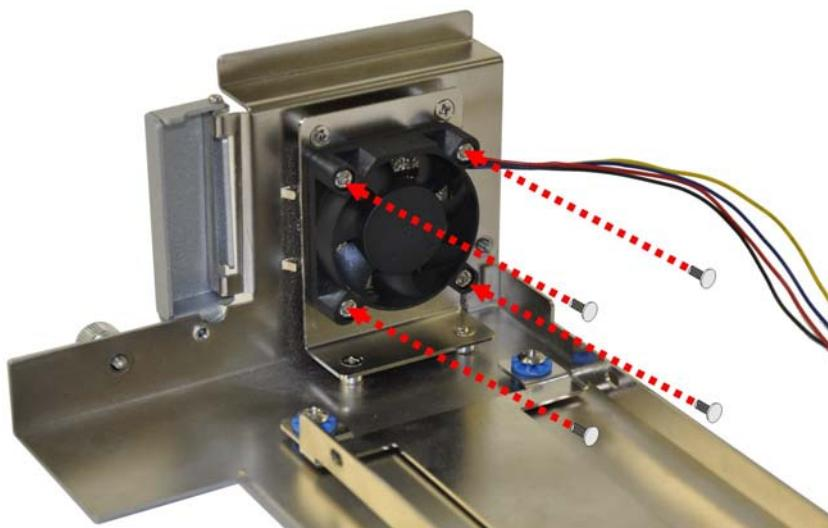

Figure 3-8: System Fan Installation
- Step 3:** Attach the system fan to the TANK-801 and secure it by four retention screws (**Figure 3-8**).